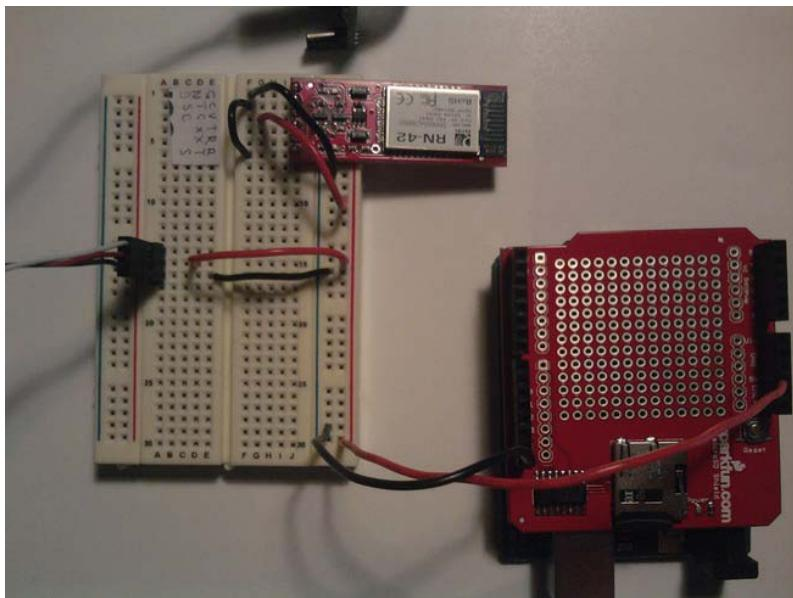

Figure 8-15. Connect power (+5V) and ground to Bluetooth Mate Silver and PIR sensor.
7. Connect ground to the Bluetooth Mate Silver and to the PIR. Figure 8-15 illustrates these processes.